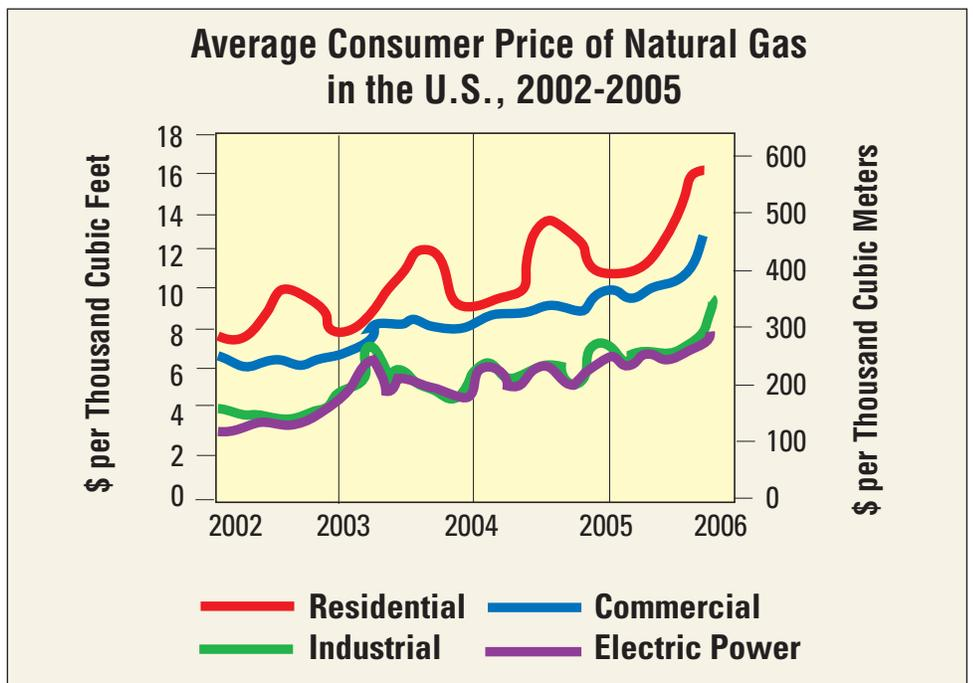

Figure 1: The graph above shows average prices of natural gas since 2002. Source: The Energy Information Administration.
**D**igester gas is a source of free energy that can greatly reduce operating costs for wastewater treatment facilities. As the cost of natural gas and other fuel alternatives continues to soar (see **Figure 1**), more facilities are reviewing their strategies for handling digester gas. Simply wasting this sometimes troublesome energy source is no longer an option. In the last year alone, the number of upgrades and retrofits to existing anaerobic digestion equipment and processes has climbed drastically.